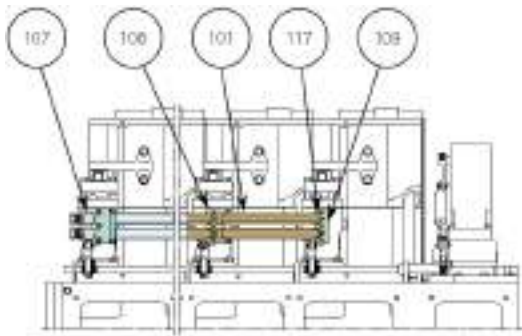

Fig.1 Remove fuel oil through a plug hole at end block(item no. 109)
1. Close ball valves in fuel supply/return line and remove fuel oil inside the pipe by means of dismantling a plug from end block (Item no. A53000-109). (See Fig.1)